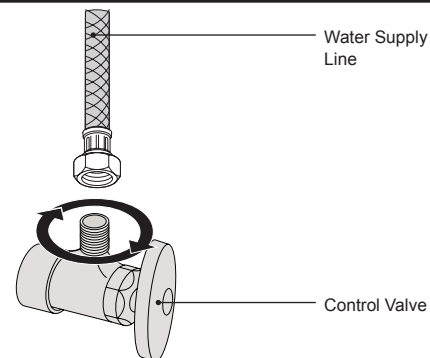

Figure 17
- 1 Connect the water supply line to the water control valve normally located behind and to the left when facing the toilet (Figure 17).